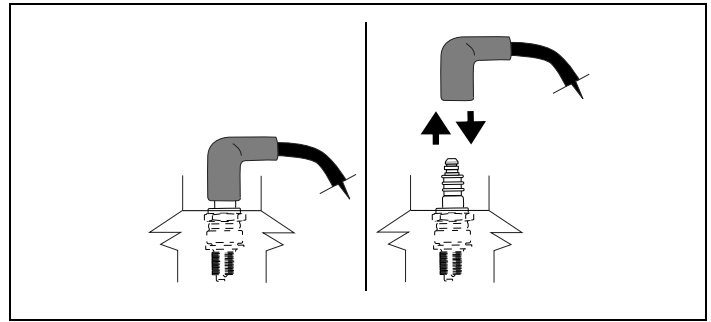

Figure 53. Disconnecting/Connecting Spark Plug
1. Carefully disconnect spark plug wire and keep it away from spark plug. See Figures 53 and 54.